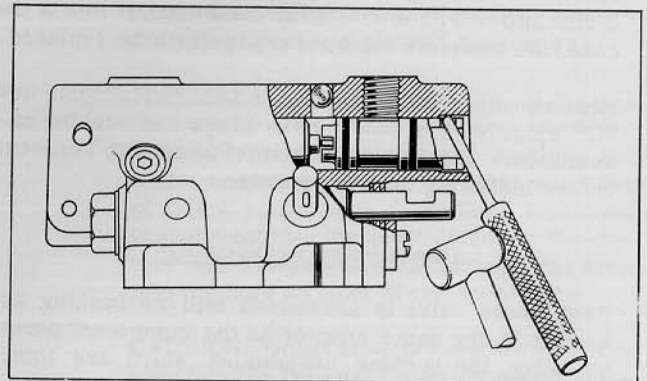

Figure 9
4. Remove the two check valve bushing assemblies, one located at each end of the bore, by angling a rod or drift into one of the roll pin holes as shown in Figure 9. Strike the rod or drift with a hammer in the direction shown until the bushing assemblies